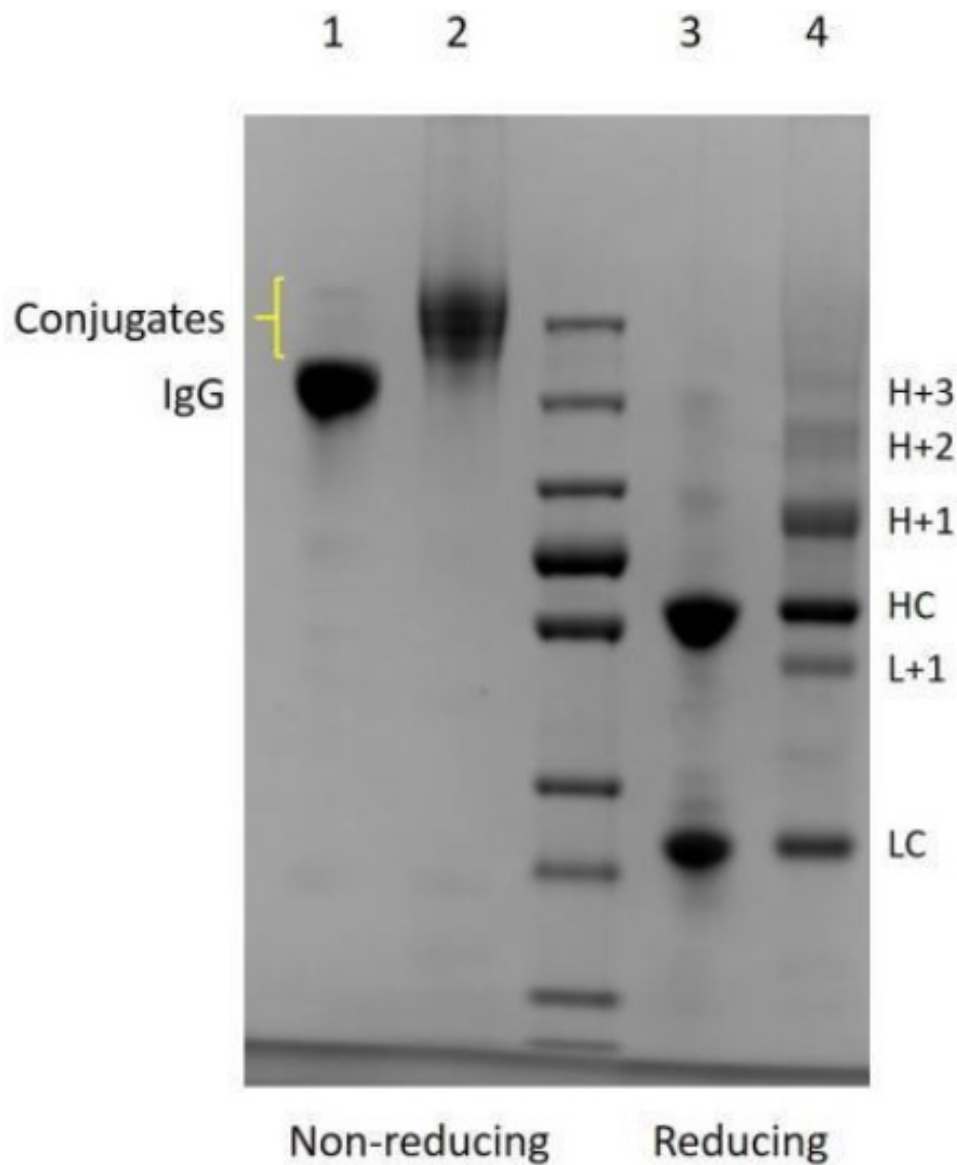

Fig 1.
12.3. An example is shown in Fig. 1 with a polyclonal antibody. The gel has been deliberately overloaded (~4 μg of antibody conjugate and IgG) to illustrate the band patterns more clearly, especially the quantitatively minor bands in the reducing half of the gel (Fig. 1, Tracks 3 and 4) i.e. those with two or more oligos attached. On the non-reducing half of the gel (Tracks 1 and 2), the block of overlapping conjugate bands (Track